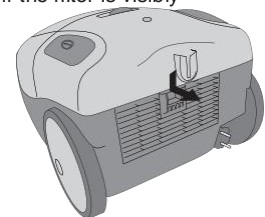

Figure 13 Removing the exhaust filter
2. Open the exhaust-filter cover by pulling on the cover in the direction of the arrow, see Figure 13.